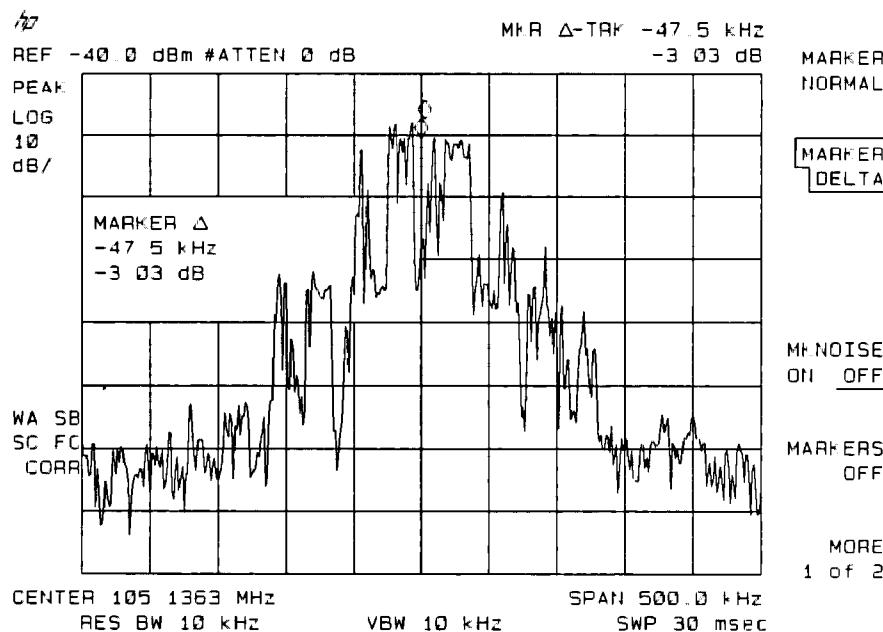

Figure 6-8. Using Signal Tracking to Track an Unstable Signal
5. The signal frequency drift can be read from the screen if both the signal track and marker delta functions are active. Press [MARKER], MARKER DELTA, [SIGNAL TRACK]; the marker readout indicates the change in frequency and amplitude as the signal drifts. (See Figure 6-8.)